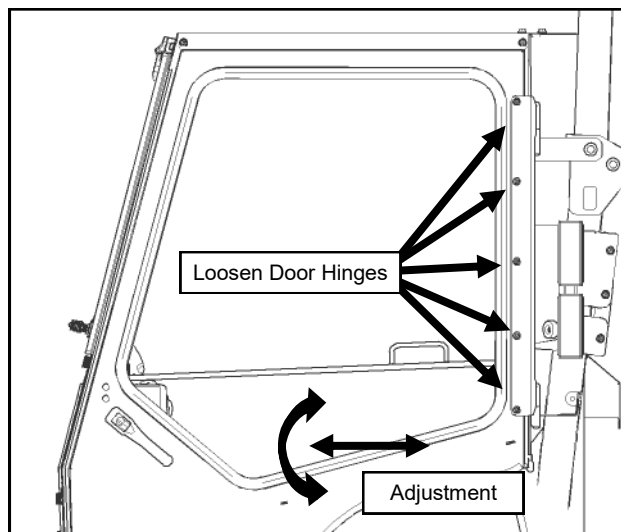

Fig. 22.2a (Door Hinge Adjustment)
22.2 Loosen the door hinge bracket to allow for adjustment later. Hang the left door on the hinges. While lifting up and forward on the door handle, line up the door latch with the striker pin and carefully attempt to latch. You should be able to hear 2 clicks as you slowly engage the latch on the pin. If the latch is too far forward or back to latch on the pin, adjust as shown. Then retighten and latch. See Figures 22.2a, 22.2b and 22.2c.